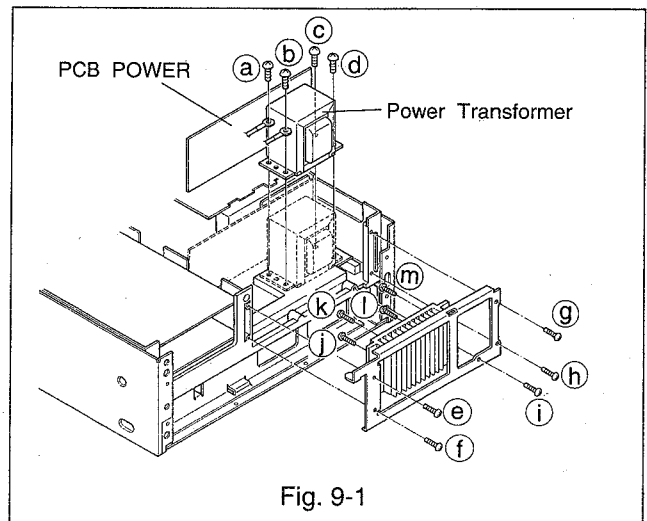

Fig. 9-1
- B. Remove four screws (a~d) of the power transformer. (Refer to Fig. 9-1)
(Refer to Fig. 9-1).